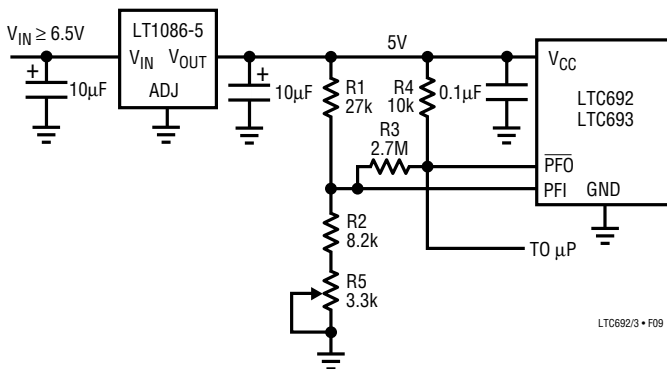

Figure 9. Monitoring Regulated DC Supply with the LTC692/LTC693 Power Fail Comparator
**Example 2:** The circuit in Figure 9 can be used to measure the regulated 5V supply to provide early warning of power failure. Because of variations in the PFI threshold, this circuit requires adjustment to ensure the PFI comparator trips before the reset threshold is reached. Adjust  $R5$  such that the  $\overline{PFO}$  output goes low when the  $V_{CC}$  supply reaches the desired level (e.g., 4.6V).